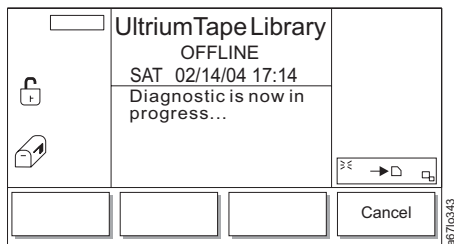

Figure 4-185. Diagnostic In Progress Screen
10. When the diagnostic begins, the Diagnostic In Progress Screen displays (see Figure 4-185).